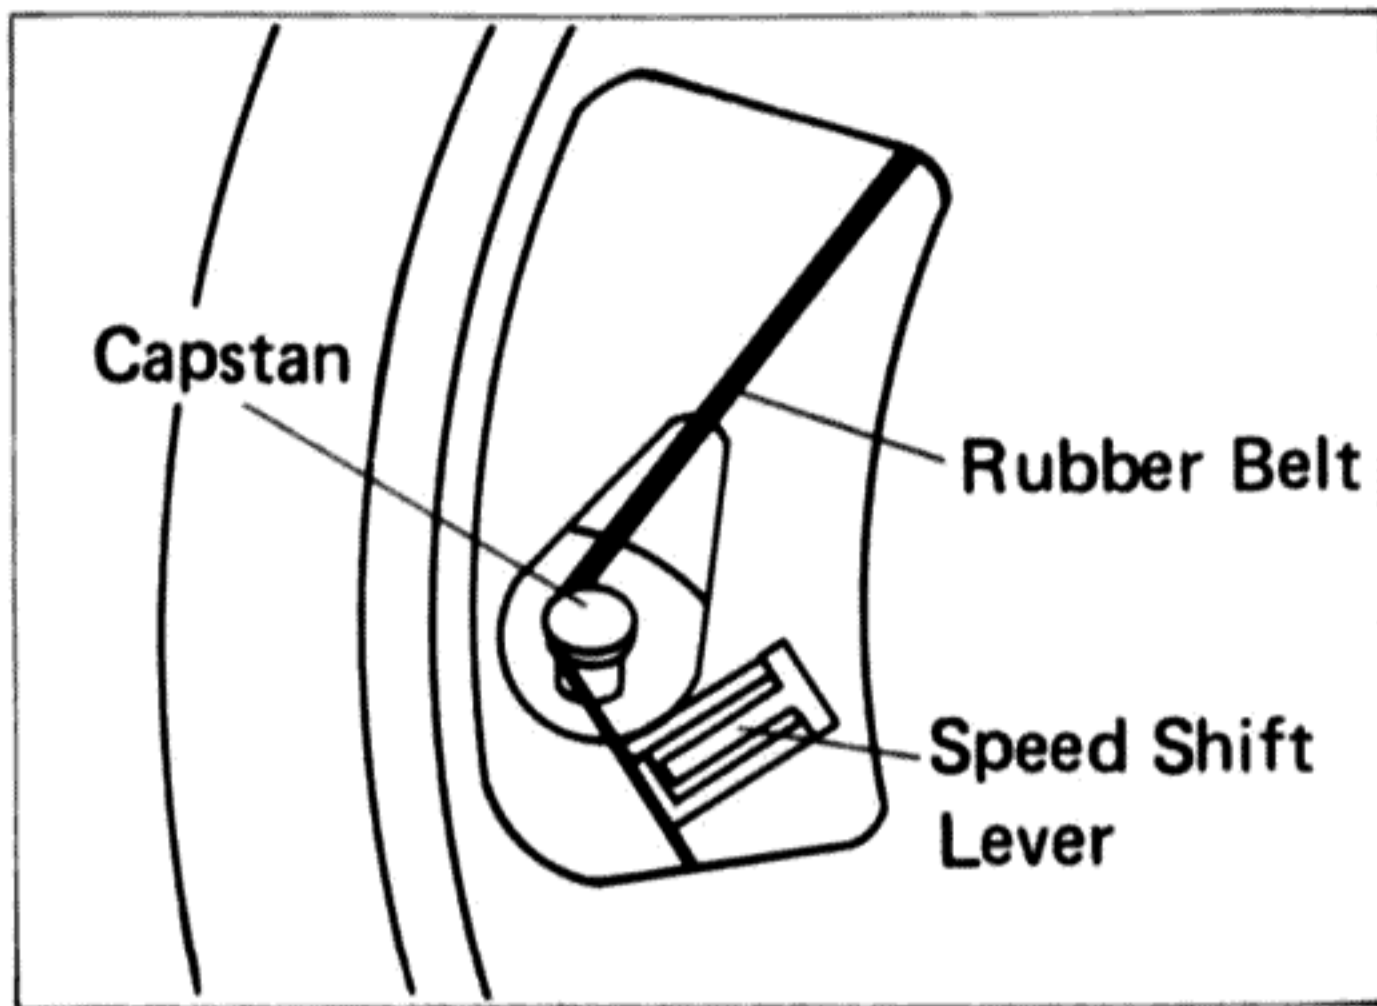

Fig. 2
2. Gently position the rubber drive belt over the motor capstan shaft (see Figure 2).